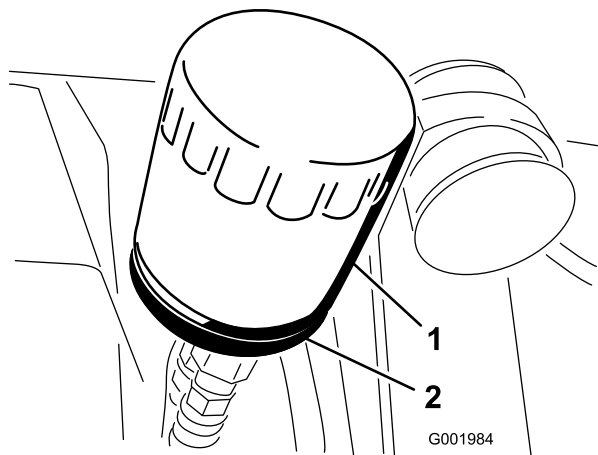

Figure 49
2. Remove the oil filter (Figure 49).
5. Install the replacement oil filter to the filter adapter. Turn the oil filter clockwise until the rubber gasket contacts the filter adapter, then tighten the filter an additional 1/2 turn (Figure 49).